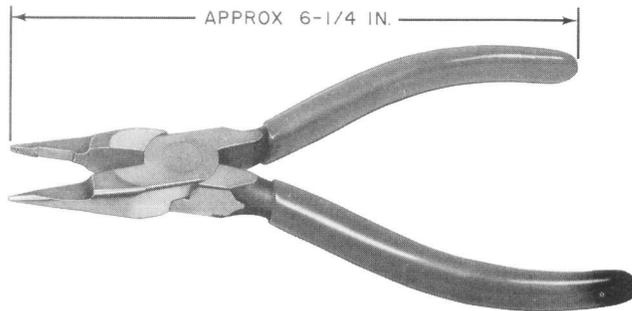

Fig. 8—AT-8479 B or C Short-Nose Pliers
2.08 AT-8479 B or C: The AT-8479 B or C tools are short-nose pliers (Fig. 8). The tools are identical except the jaws of the C pliers are coated with aluminum oxide. The plastic cushion grips do not provide protection against hazardous voltages. These tools replace the short-nose skinning pliers R-2291.